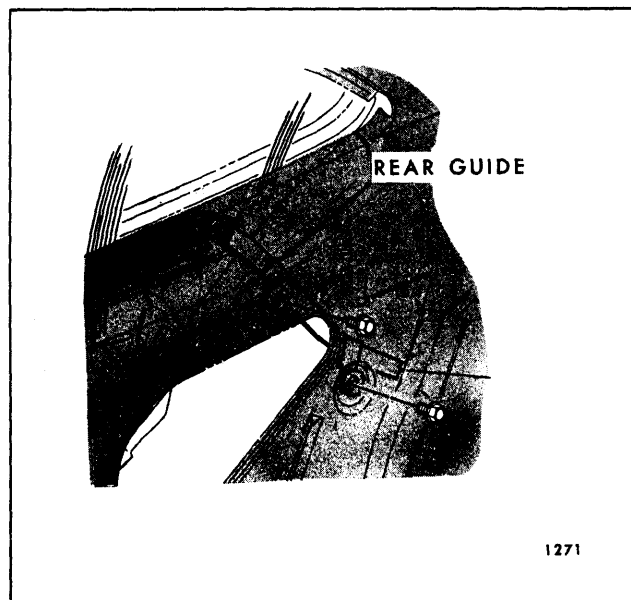

Fig. 7-38—Rear Quarter Window Rear Guide Assembly - "Z-37" Styles
1. With window in full-up position, remove rear guide upper and lower attaching bolts (Fig. 7-38). Disengage guide from roller on window assembly and remove guide.